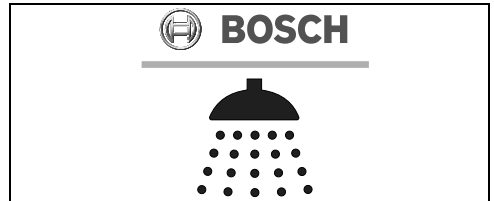

Fig. 52 Bosch Water APP
- ▶ Download the “*Bosch Water*” app, available for Android and IOS for communication with the water heater, see fig. 52.